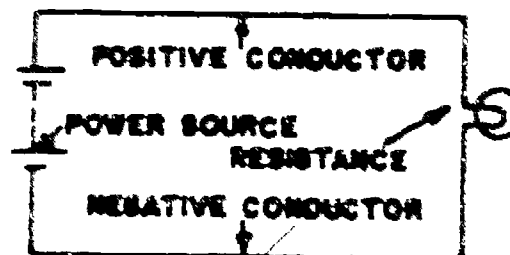

Figure 3
- \_\_\_\_\_ b. Figure 3 above is a basic electrical circuit.
- \_\_\_\_\_ d. Figure 3 has the 3 basic parts of an electrical circuit.